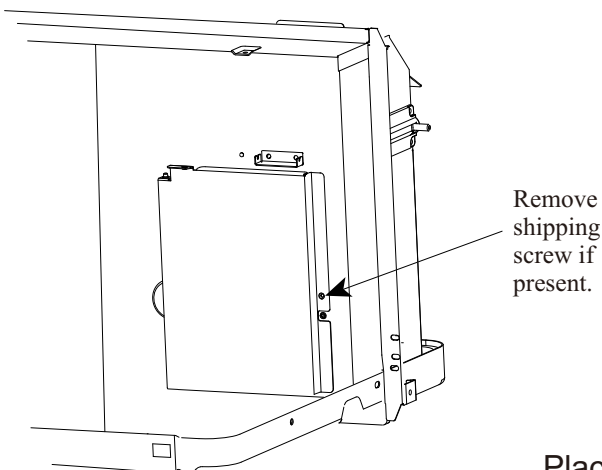

Fig. 10 - Shipping Screw Location.
2. Remove shipping screw from the vent door, if present. See Fig. 10.